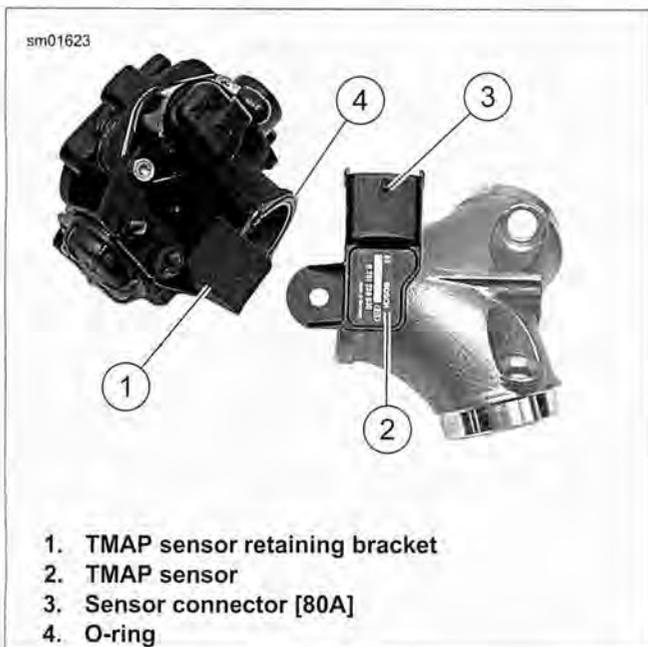

Figure 4-57. TMAP Sensor Removal/Installation
- See Figure 4-57. Pull induction module away from intake manifold far enough so that TMAP sensor retaining bracket (1) clears TMAP sensor body (2).
- Unplug harness connector [80B] from TMAP connector [80A] (3).
- See Figure 4-57. With a gentle twisting motion, insert sensor (2) into intake manifold with connector [80A] (3) facing rear cylinder head.
- Examine O-ring (4) between induction module and intake manifold for cuts, tears or signs of deterioration. Install **new** O-ring if necessary. Make certain O-ring is fully seated in its groove in induction module body.